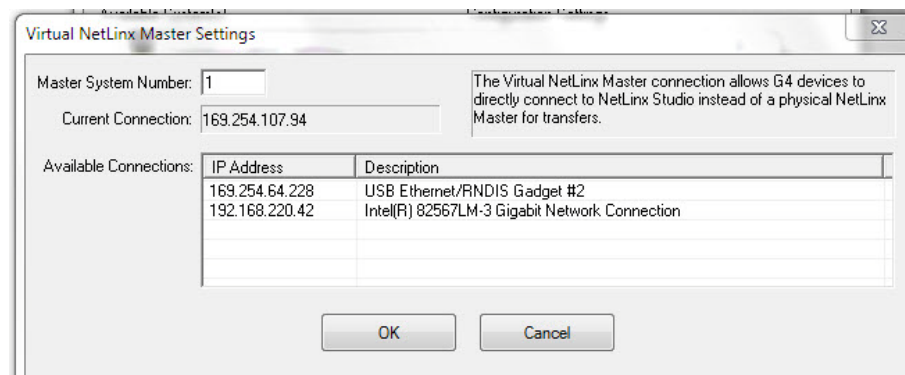

FIG. 32 Virtual NetLinx Master Settings dialog box
6. Click the **Edit Settings** button to open the *Virtual NetLinx Master Settings* dialog (FIG. 32).